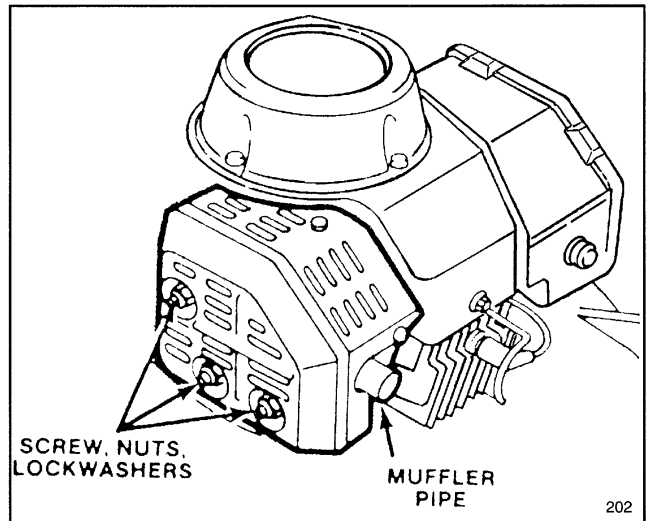

Figure 21
2. Use hard wood scraper and remove carbon from end of muffer pipe (Fig. 21).
3. Remove screw, two nuts, and lockwashers (Fig. 21). Slide muffer off mounting pins.